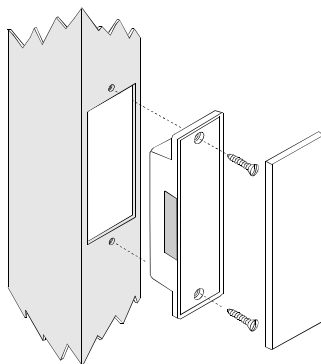

Figure 5. Flush Mounting
**B. Flush mounting (see Figure 5)**